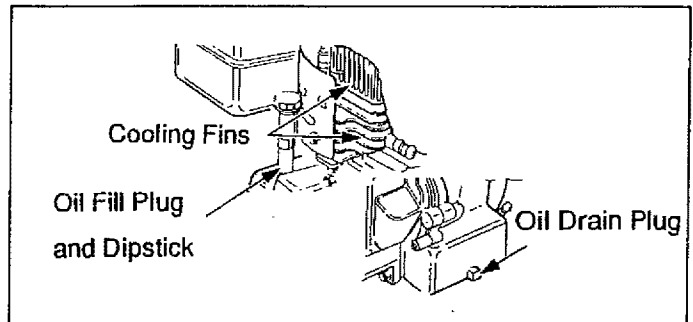

FIG. 9
- Remove oil drain plug (Fig. 9) and drain oil completely into a suitable container.